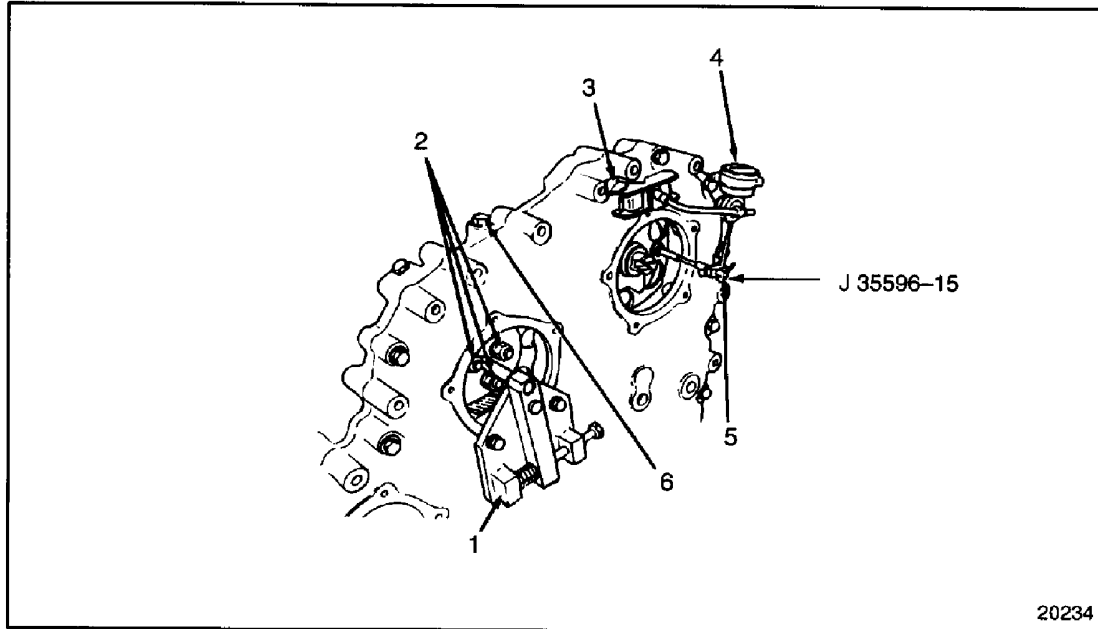

Figure 1-279 Camshaft Drive Gear-to-Adjustable Idler Gear Lash Measurement
- [a] Install the gear lash pedestal, J 35596-15 part of J 35596, into the threaded hole of the camshaft drive gear. Bar the engine over until the tool is at the three o'clock position. See Figure 1-279.
- [b] Mount a dial indicator adaptor and dial indicator. See Figure 1-279.
- [f] Insert the dowel portion of the gear lash adjusting tool, J 35596, through the hole in the adjustable idler gear retaining plate and into the adjustable idler gear hub, using the bottom two adjustable idler gear cover bolt holes. See Figure 1-279.